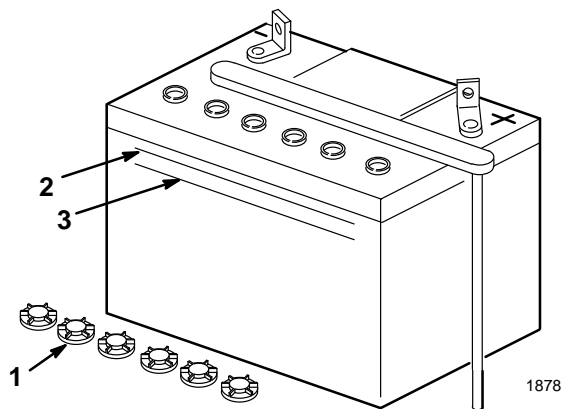

Figure 21
- Look at the side of the battery. The electrolyte must be up to the "UPPER" line (Fig. 21). Do not allow the electrolyte to get below the "LOWER" line (Fig. 21).
- Unscrew the filler caps (Fig. 21).
- Slowly pour distilled water into each battery cell until the level is up to the "UPPER" line (Fig. 21) on the battery case.